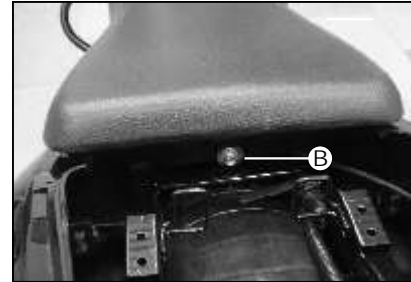

Fig. 2 Seat Mounting Bolt
- To remove Seat Front, remove bolt (B) shown in fig. 2.